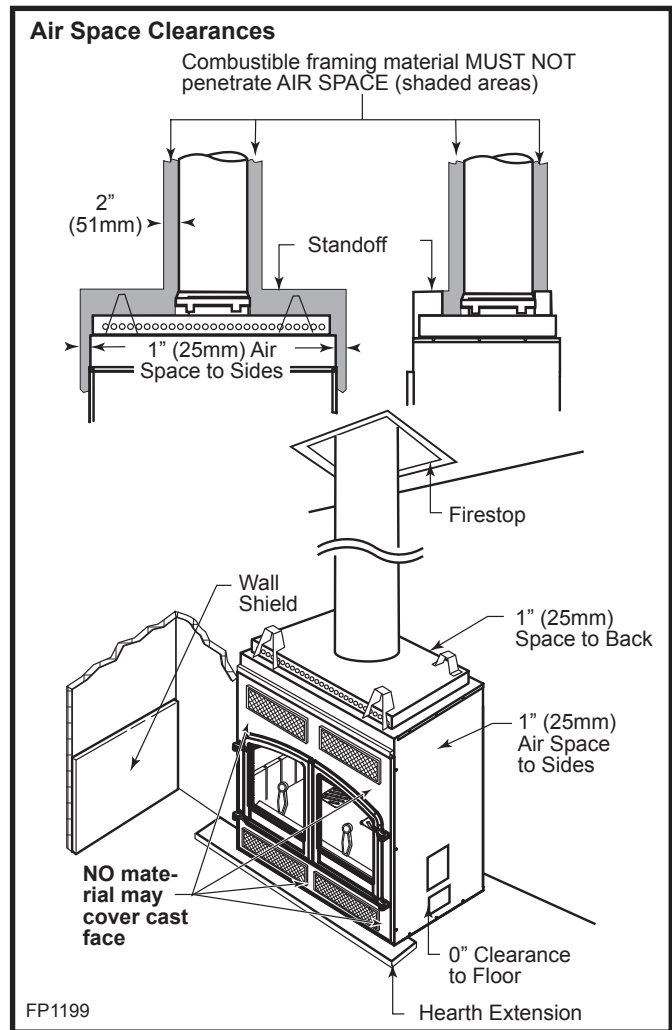
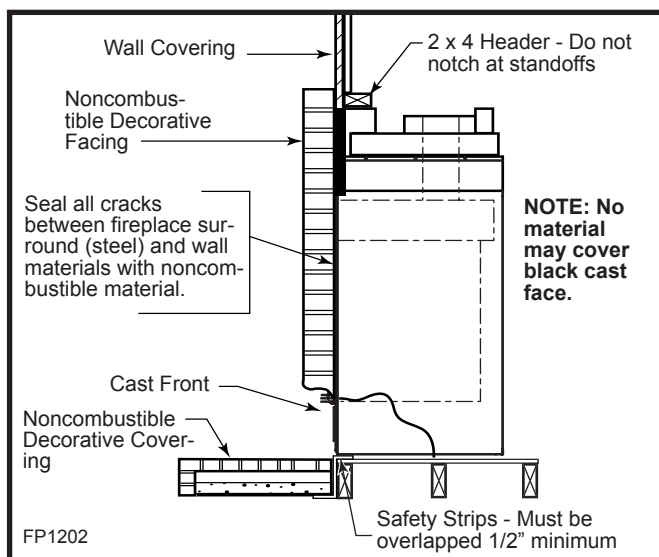

Fig. 20 Minimum clearances to combustibles.
Fig. 25 Sealing gaps.
CAUTION: All joints between the finished wall and the fireplace surround (steel front) must be sealed with noncombustible material to prevent cold air leakage into the room. (Fig. 20)
Finish the wall with material of your choice. **Do not install a combustible mantel shelf less than 12" (305 mm) above the firebox grille opening. Do not install a mantel face plate less than 6" (159 mm) from top of grille opening.** (Fig. 20) If a combustible material is used below a flat mantel shelf, consult your local building codes for minimum clearance from top of fireplace opening to bottom of mantel shelf.
Adjacent combustible side walls that are within minimum dimensions shown in Figure 25 of the fireplace opening must be protected with MHSC Wall Shield Model SP40 or a specifically built wall shield described in Figure 20.
The special wall shield design described in Figure 20 is an alternate method of adding protection to side walls and can be used in place of the SP40 with the same wall clearances specified for the SP40. Rt must = 1.85 minimum.
Secure the hearth extension to the floor to prevent shifting, using trim molding or other similar means at three (3) outer edges. Seal crack between the fireplace hearth and hearth extension with a noncombustible material. (Figs. 25 and 26)
WARNING: Hearth extension must be installed in accordance with Figure 25. Top of hearth extension must be level with bottom of fireplace.